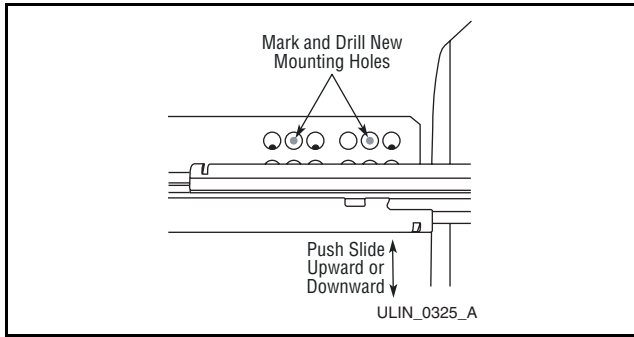

Figure 54
3. Mark new drilling holes using different sets of mounting holes on the slide (**Figure 54**).